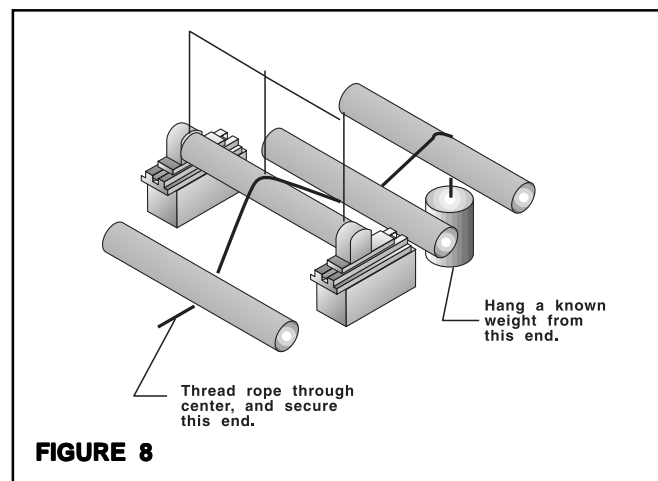

FIGURE 8
9. Thread a rope or cable through the normal web path in such a way as to duplicate the web wrap angle around the Sensor Roll. Hang a known weight **W** which is less than the full scale of the Indicator to one end of the rope or cable (See Fig. 8).